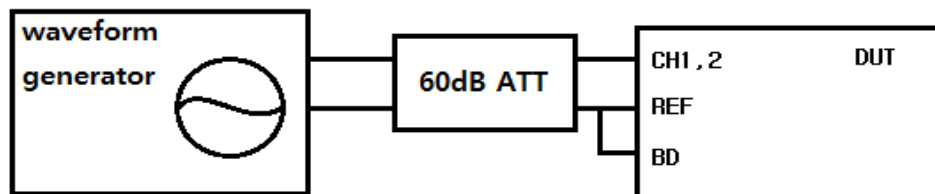

Figure 2.1 Connection diagram of waveform generator, 60dB attenuator, and test board.
- Connect lines as shown in Fig. 2.1 waveform generator and obtain output signal amplitude with viewer program.